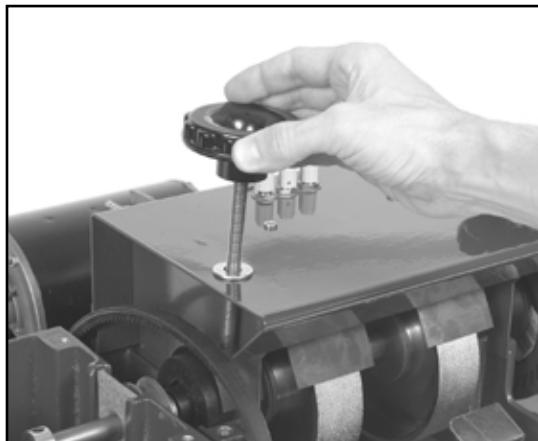

Fig 44 - Remove the locking knobs
5. Unscrew and remove the locking knobs from the hood (fig 44).